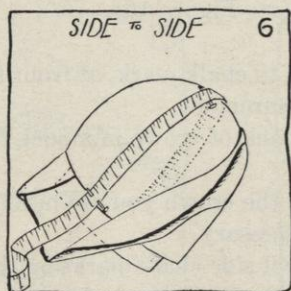

FIG. 6.
- f. If the model is draped over the crown, measure very carefully, as shown in Sections (1) through (7) below and page 46, so that your crown will be the same height and will be cut out in the same way that the model is cut.
- (1) Find the center of the crown tip of the model.
- (c) Measure from side to side of crown block directly over model. Feel through the model on each side to be sure that you are at the bottom of the crown block (see Figure 6).
- (d) Put a pin in the model at a point to indicate one half of this side-to-side measurement (see Figure 6).
mark the center by crossing two pins (see Figures 6 and 7, page 45). Remember that you are working this time with the crown, not the model, over the block.